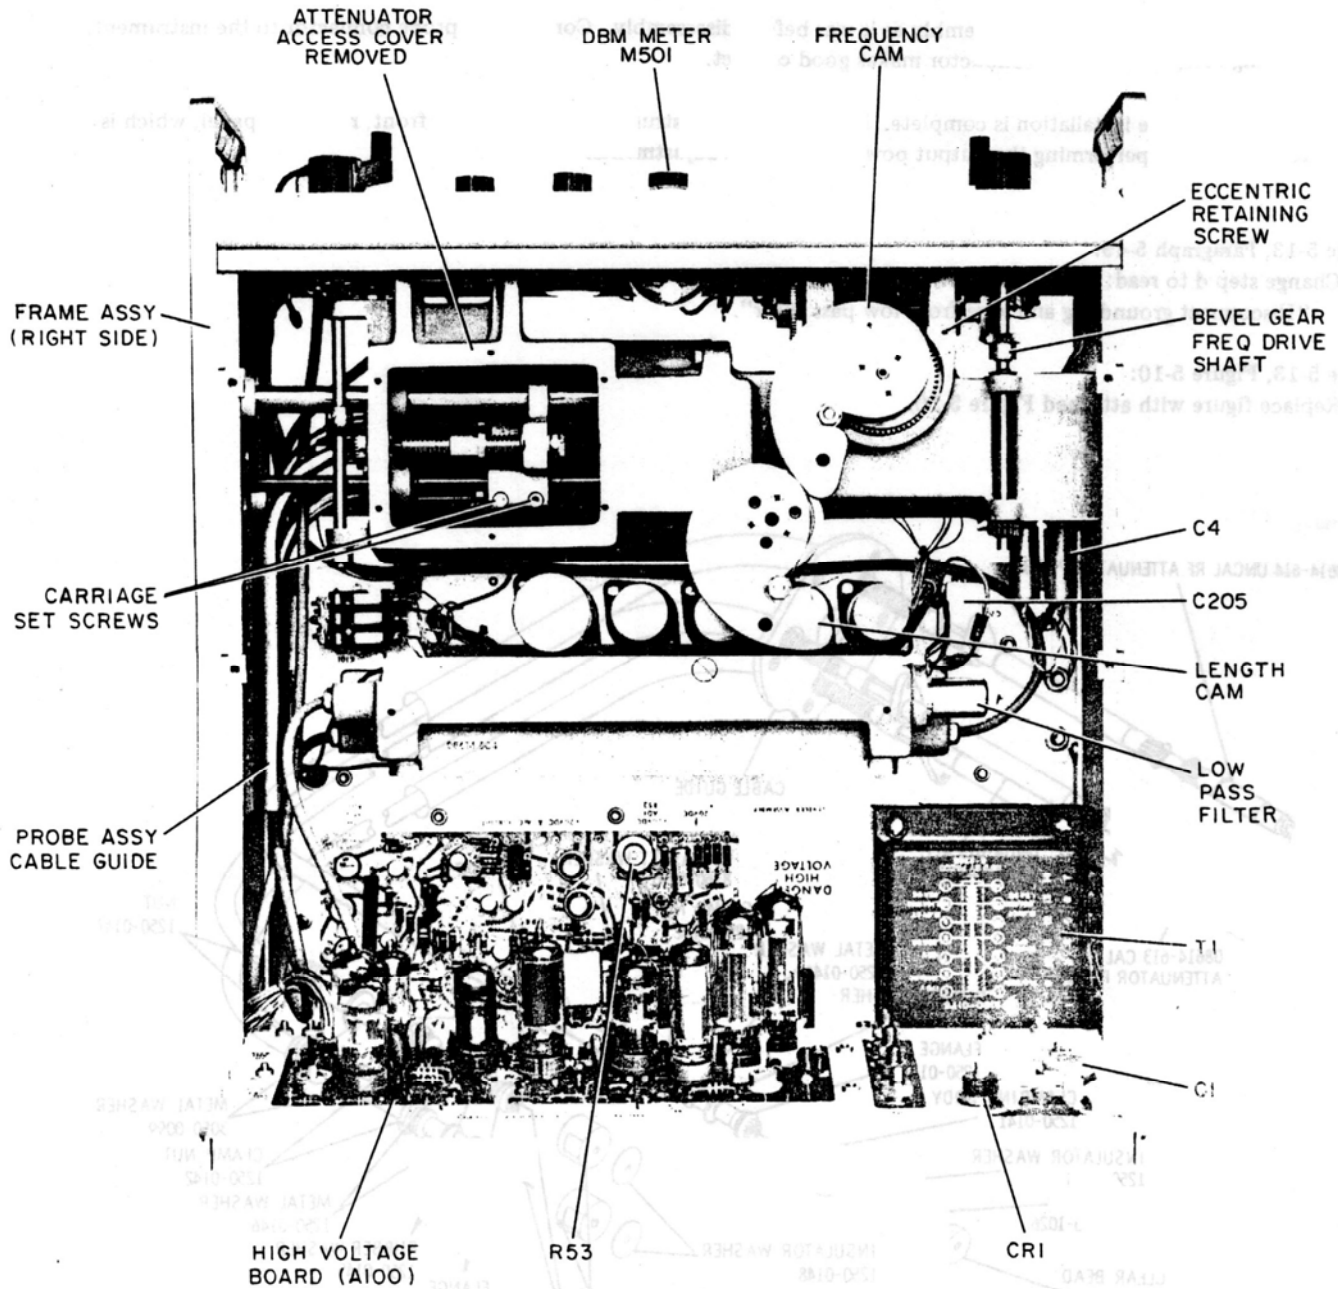

Figure 5-13. Instrument Top View, Cover Removed (P/O Errata)
- Remove Attenuator Access Cover from Klystron Cavity Casting (see Figure 5-13 P/O Errata).
Page 5-15, Figure 5-13:
Replace figure with attached Figure 5-13.
2. If it is not, loosen the two setscrews in the attenuator drive shaft bevel gear (see Figure 5-13 P/O Errata). With the bevel gear loose, turn the attenuator gear with your fingers until the output power is -11 dBm . Without disturbing the -11 dBm power setting, turn the attenuator knob on the front panel until the attenuator counter reads 012 dB. Tighten the two setscrews in the bevel gear.
2. If it does not, the RF UNCAL probe requires adjustment. The front right side panel should be removed, exposing the probe assembly cable guide. Remove the screw in the cable guide that is in line with the UNCAL probe retaining screw (see Figure 5-13 P/O Errata). Insert a long Allen wrench through the hole left by removing the cable guide screw into the UNCAL probe retaining screw. Turn the retaining screw to adjust the UNCAL probe penetration for $-3 \text{ dBm} \pm 0.3 \text{ dBm}$ output.
2. If it is not, the ALC attenuator probe requires adjustment. The front right side panel should be removed, exposing the probe assembly cable guide. Remove the screw in the cable guide that is in line with the ALC probe retaining screw (see Figure 5-13 P/O Errata). Insert a long Allen wrench through the hole left by removing the cable guide screw into the ALC probe retaining screw. Turn the retaining screw to adjust the ALC probe penetration for $120 \text{ mV} \pm 2 \text{ mV}$ at the ALC crystal output.